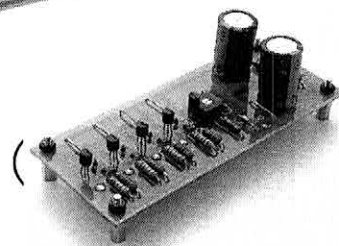

FIGURE 19
- #103(✓) Install the 4 threaded stud spacers (12mm) on the PCB-BIAS, in the recess provided at the four corners of the board (figure 19). The spacers must be on the side of the PCB's threadways. If threaded stud are 10mm longer, you must use 2 nuts, one on each side of the PCB (figure 17). It would be advisable to secure the nuts with some locking adhesive.